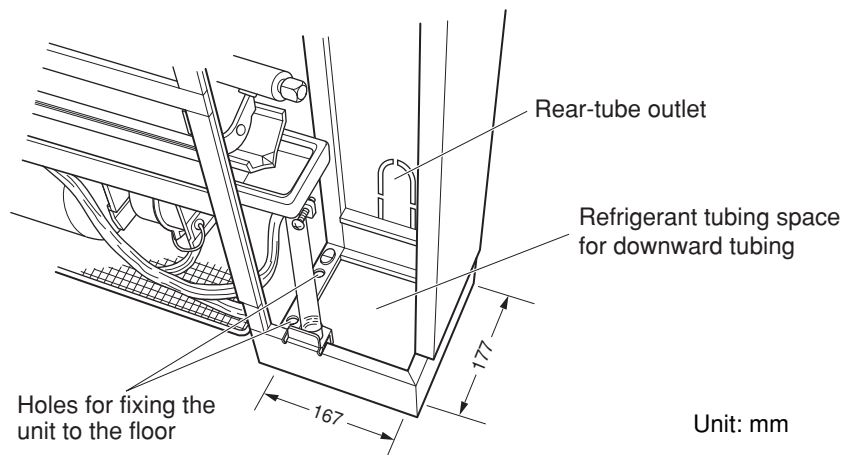

Fig. 3-110
- When downward tubing is required, refer to the opening dimensions shown in Fig. 3-110.